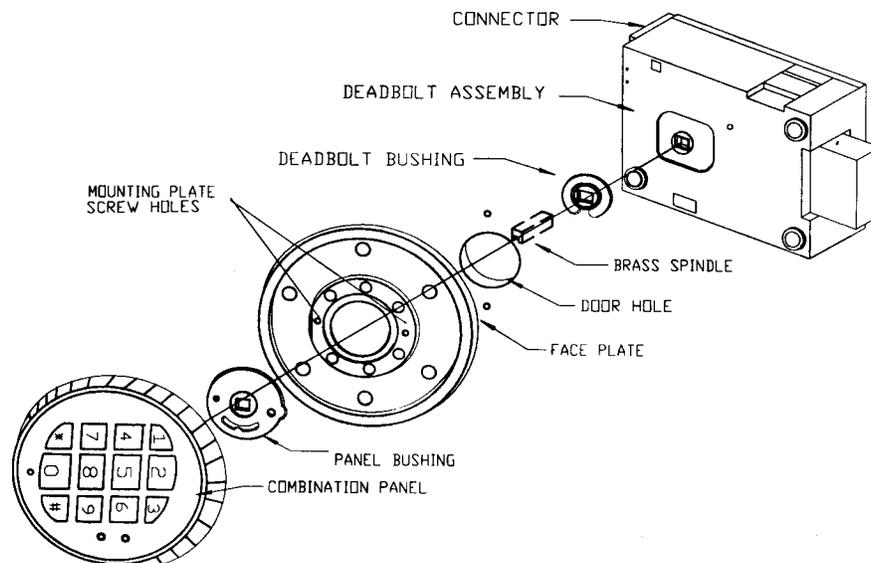
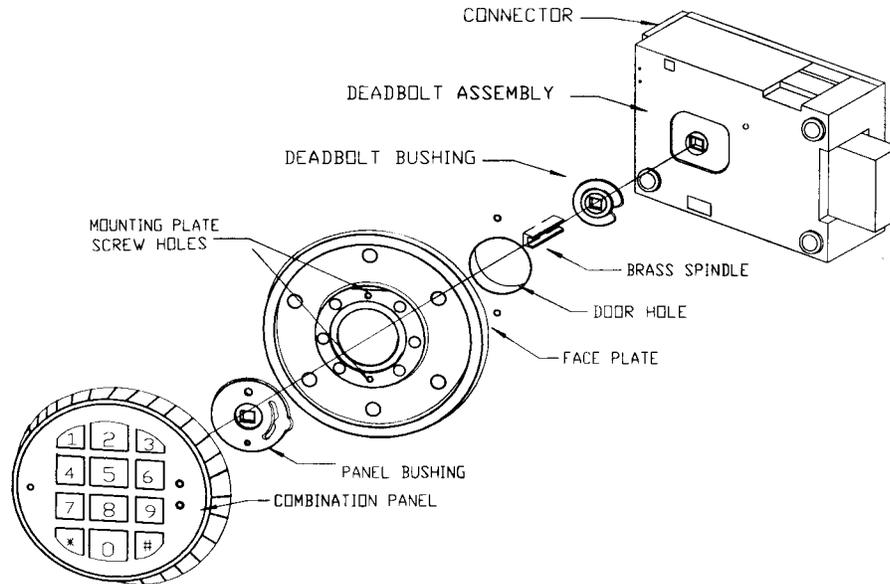

FIGURE 2. HORIZONTALLY MOUNTED LOCK
FIGURE 3. VERTICALLY MOUNTED LOCK
- For all units, attach the dial mounting plate to the outside of the door using the two shoulder screws supplied. Make sure the word "UP" stamped on the front of the dial plate is facing up if the mounting holes are positioned vertically (see Figure 3) or to the right if the holes are aligned horizontally (see Figure 2).
- Feed the panel lead through the front of the security container door and then insert the combination panel onto the shoulder screws which attach the combination mounting plate to the front of the door. Turn the combination dial clockwise until the dial stops, then turn the dial counter clockwise until the numbers are aligned either vertically or horizontally (depending on the model of the cabinet). Refer to Figures 2 and 3 for assembly of the lock.
9. Open the battery box and install the 9 volt battery. Connect the plug on the end of the battery box lead into the **lower** receptacle on the deadbolt connector. Again, check to make sure the connection is secure. Clean the back of the door at the area where the battery box will be installed with the alcohol pad provided. Remove the backing from the tape on the back of the battery box and press the box firmly onto the door. Make sure there is some slack in the battery cable (see Figure 2).